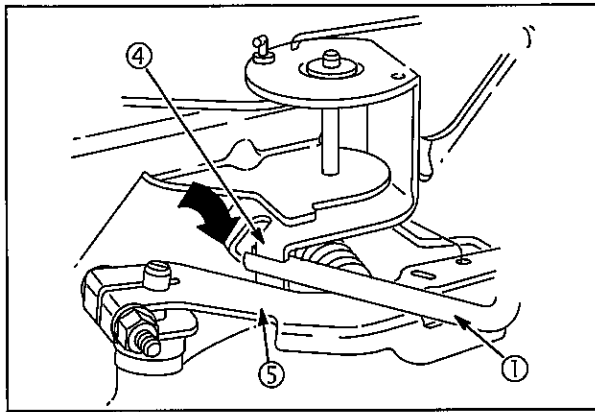

Fig. 33
3. With equipment control lever in SLOW position and engine running at governed idle RPM, use Tang Bender #19352 (1), to bend throttle restrictor tang (4) so that it just contacts governor lever (5), Fig. 33.